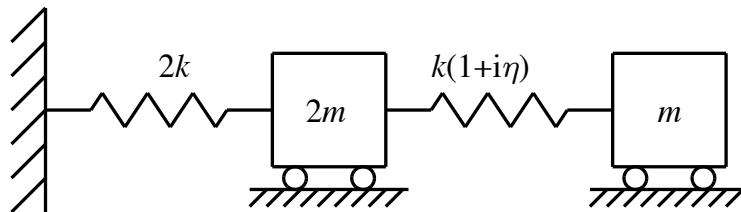

Fig. 6
- (b) (i) A two-degree-of-freedom vibrating system is illustrated in Fig. 6, with masses and stiffnesses as labelled there. For the undamped case with  $\eta = 0$ , find expressions for the natural frequencies and mode shapes of this system. [30%]